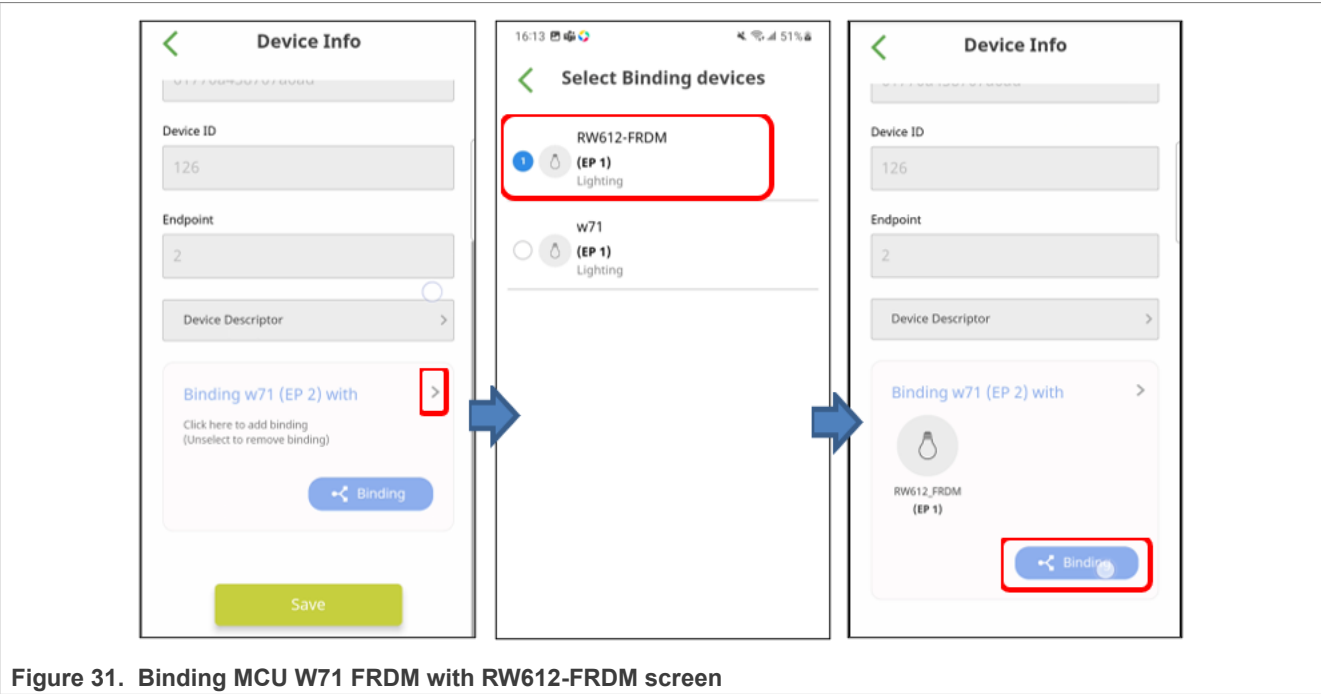

Figure 31. Binding MCU W71 FRDM with RW612-FRDM screen
1. Enter the information page of MCU W71 FRDM (**EP2**) and select binding device RW612- FRDM (**EP1**) as shown in Figure 31